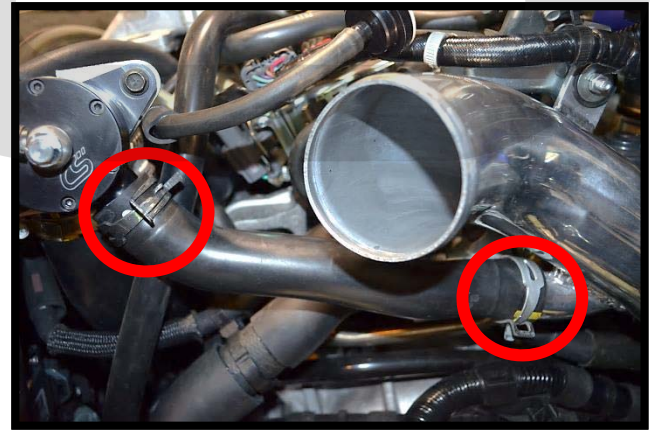

Figure 5e
- e) Install the bypass valve hose.. Reuse the spring clamps if re-installing the factory rubber BPV hose, or use the T-bolt clamps supplied with the optional CorkSport silicone BPV hose (red circles in Figure 5e).